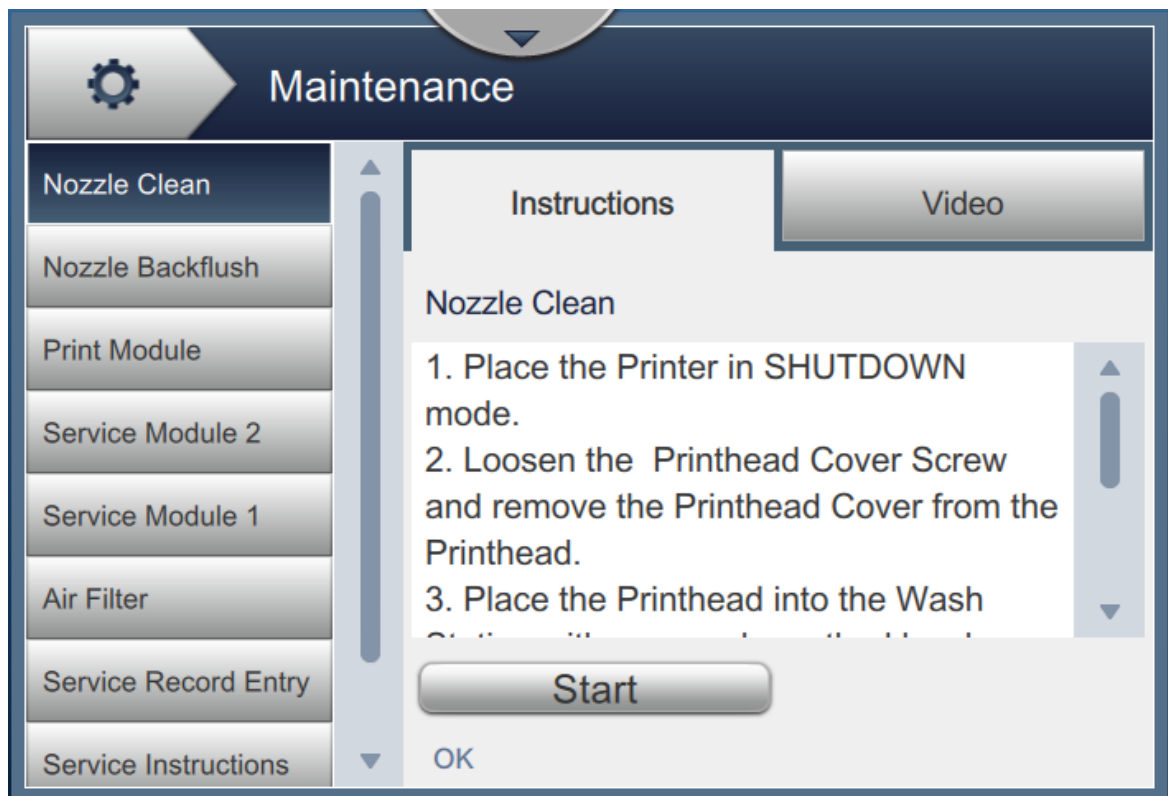

Figure 6-22: Maintenance
1. Touch the  button from the Tools screen. The Maintenance screen opens as shown in Figure 6-22.